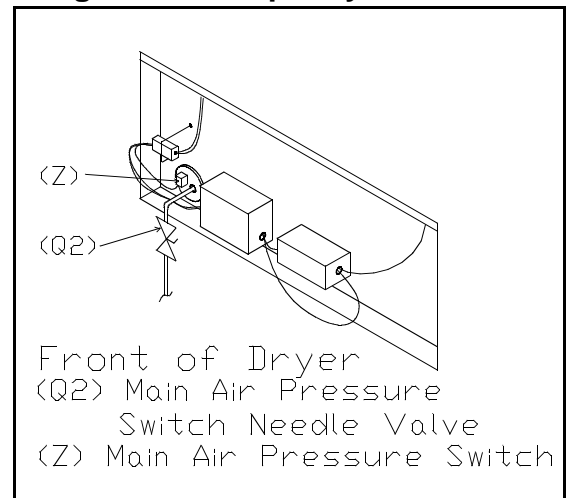

FIGURE 13 (MSSM0112BE)
This step turns on the Combustion Air motor contactor. The Main Air pressure switch (*Z*, FIGURE 13) and Modulating Gas valve (*T*) (and Main Gas valve, if so equipped) are disabled.
1. Connect one side of the manometer (low pressure side of differential pressure gauge) to the Main Air Pressure switch needle valve (*Q2*, FIGURE 13); leave the other side open to atmosphere.
2. Verify that there is 1.2" (2.989 mbar) for non-CSA 58040 and 58058 models, 1.5" (3.736 mbar) for 58080 models, or 1.3" (3.238 mbar) for all CSA models, of vacuum at the Main Air Pressure switch (*Z*, FIGURE 13). Make necessary adjustments to Main Air Blower damper clevis arm and air cylinder stop nuts on top of dryer. Do not allow the clevis arm to strike the blower housing.
3. Adjust the Main Air Pressure Switch Needle valve (Q2, FIGURE 13) to achieve the value shown in FIGURE 8. Slowly turn the Main Air Pressure switch (Z) adjustment screw clockwise until the MAIN AIR LOW status light is ON. Next, turn the screw counter-clockwise until the light goes OFF, then again turn slowly clockwise until light just comes ON.